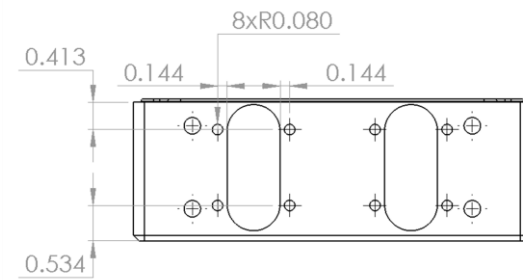

Fig. 4: Locations of LIDAR Screws
- 6) Locate the LIDAR mounting holes, located next to the LIDAR slots, as seen in Fig. 4.